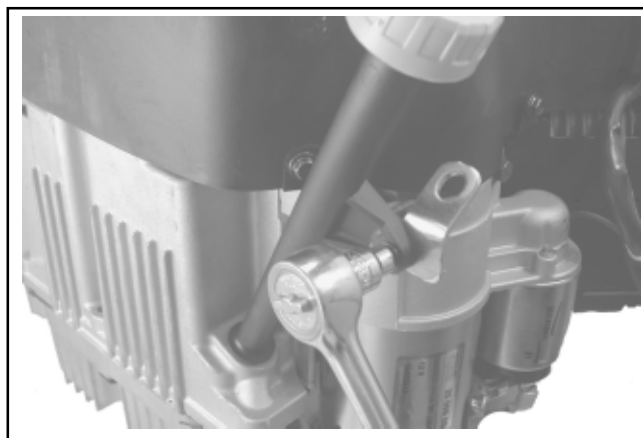

Figure 11-76. Installing Dipstick Tube.
4. Install the dipstick tube and align the mounting hole with the threaded hole in the lift bracket. Secure with the M5 hex. flange screw. Torque the screw to **4.0 N·m (35 in. lb.)**. See Figure 11-76.